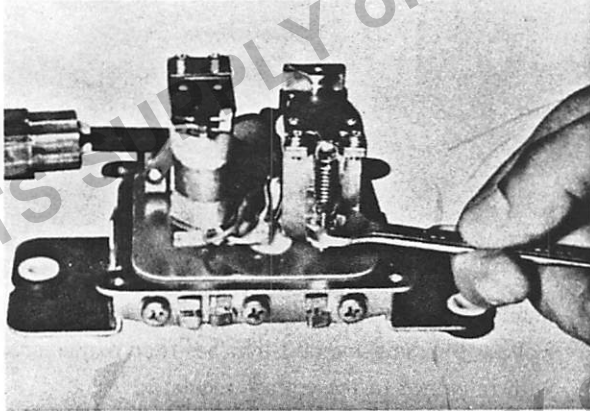

Fig. 21-30 Adjusting voltage regulator
2. Turn the adjusting nut shown in **Fig. 21-30** clockwise to attain an increased tightening of the adjusting spring.